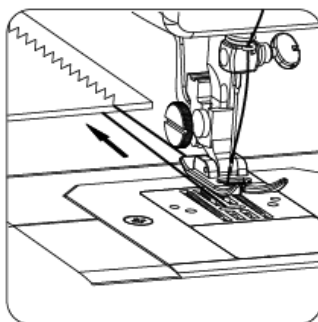
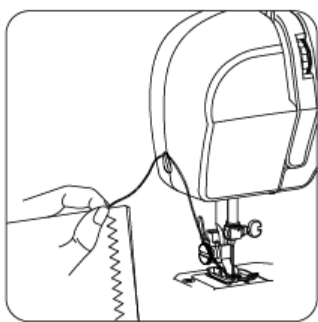

Fig.17
Fig.18
7. When you finish the sewing, turn off the switch, unplug the adapter, turn the hand wheel to raise the needle all the way up, lift the presser foot, and then gently remove the fabric from the sewing machine, and cut the thread with the thread cutter (Fig.17 & Fig.18).